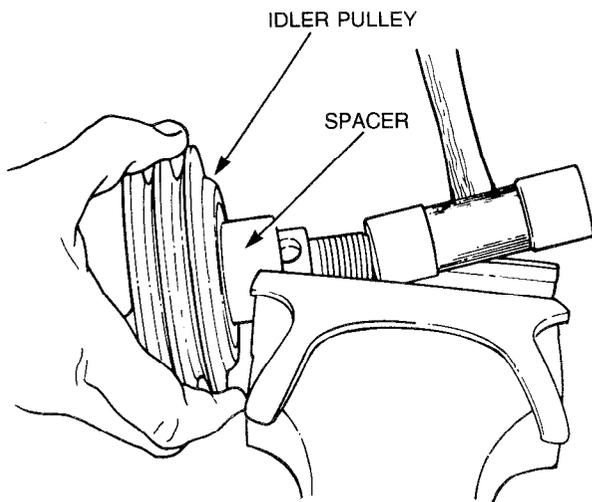

Figure 61 — Idler Shaft and Pulley — Removal
- g. Secure the idler pulley spacer in a soft-jawed vice, then using a soft faced hammer remove the shaft and idler pulley from the spacer (see Fig. 61).